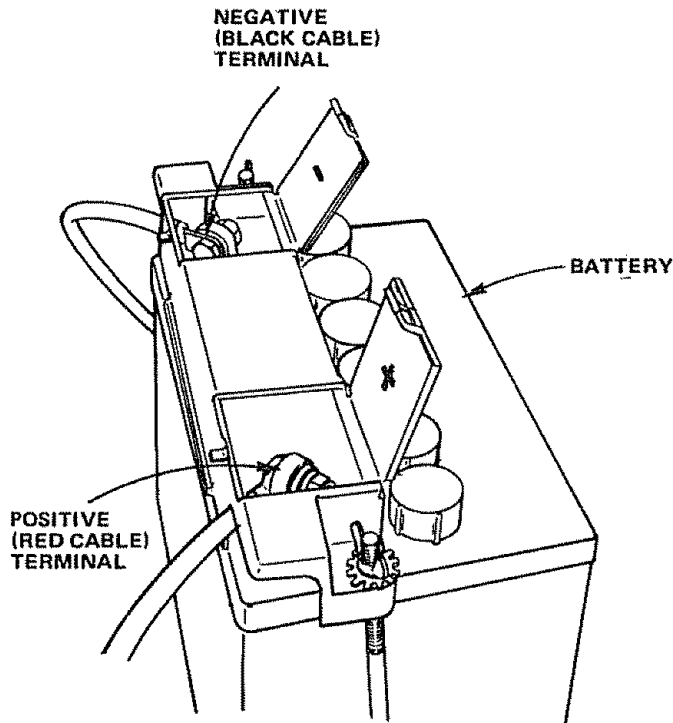

FIGURE 10
1. Connect each end of the RED cable to the POSITIVE (+) terminals of each battery (taking care not to short against chassis) (Fig. 10).